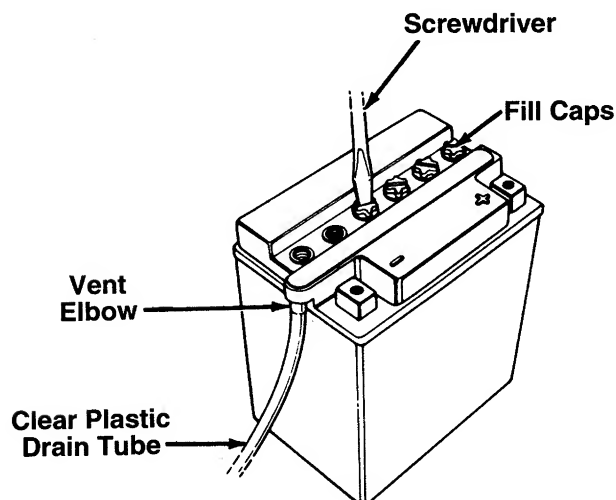

FIGURE 10.
4. Remove the six fill caps from the top of the battery with a screwdriver. Be careful not to damage the fill caps. See figure 10. ←